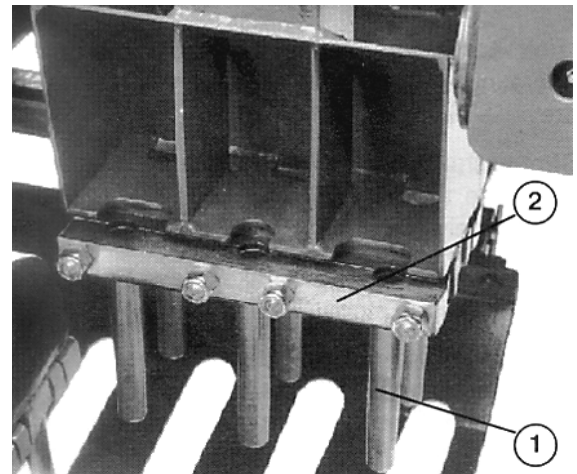

Figure 4
2. Loosen locknuts securing tines and remove tines (Fig.4).